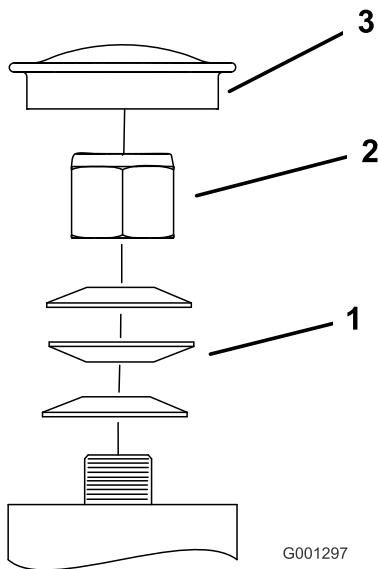

Figure 66
3. Remove the dust cap from caster and tighten the locknut (Figure 66).
4. Tighten the locknut until the spring washers are flat, and then back off a 1/4 turn to properly set the preload on the bearings (Figure 66).
Important: Make sure that the spring washers are installed correctly as shown in Figure 66.
5. Install the dust cap (Figure 66).